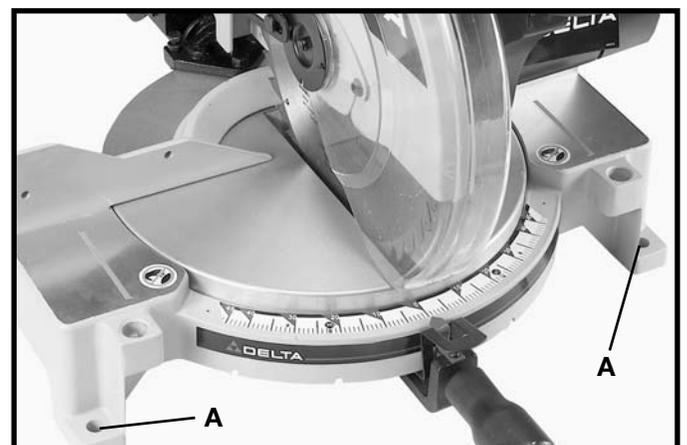

Fig. 9
Before operating your compound miter saw, make sure it is firmly mounted to a sturdy workbench or other supporting surface. Four holes are provided, two of which are shown at (A) Fig. 9, for fastening the saw to a supporting surface.